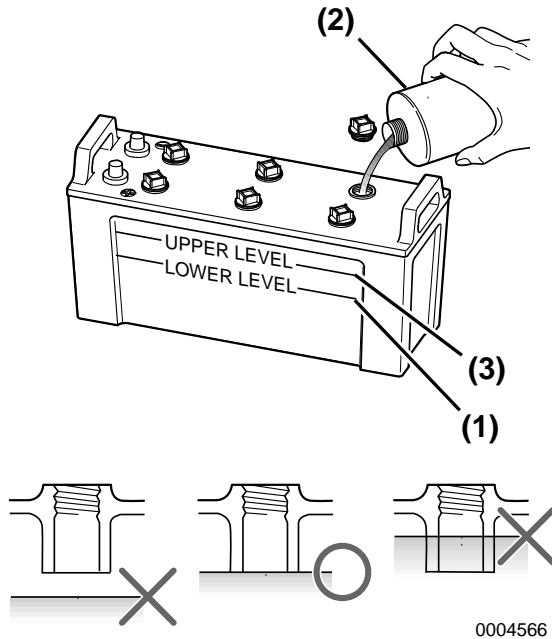

Figure 12
- If the level is lower than the minimum, fill level (Figure 12, (1)), fill with distilled water (Figure 12, (2)) (available in the grocery store) up to the upper limit (Figure 12, (3)) of the battery.